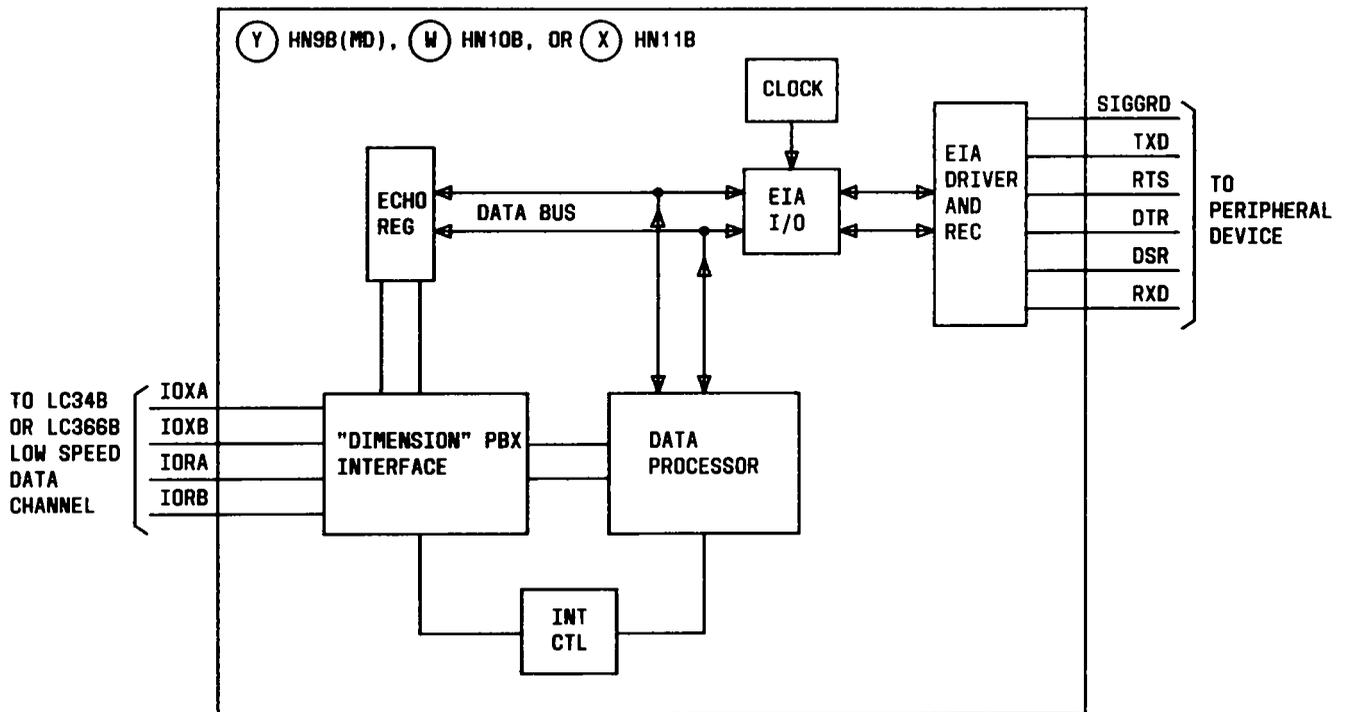

Fig. 3—Functional Block Diagram of HN9B (MD), HN10B, or HN11B Controller Board
(a) **Controller Board:** The HN9B (MD), HN10B, or HN11B (Fig. 2) provides the interface between the DIMENSION PBX low-speed data channel and a peripheral device. It contains an 8-bit microprocessor, a 16K of EPROM, 2K of RAM (random access memory), a 24-bit input/output device, a programmable communications interface, a bit rate generator for various baud rates, and EIA interface drivers and receivers. One HN9B (MD), HN10B, or HN11B is required in each PIC unit. A functional block diagram is shown in Fig. 3.